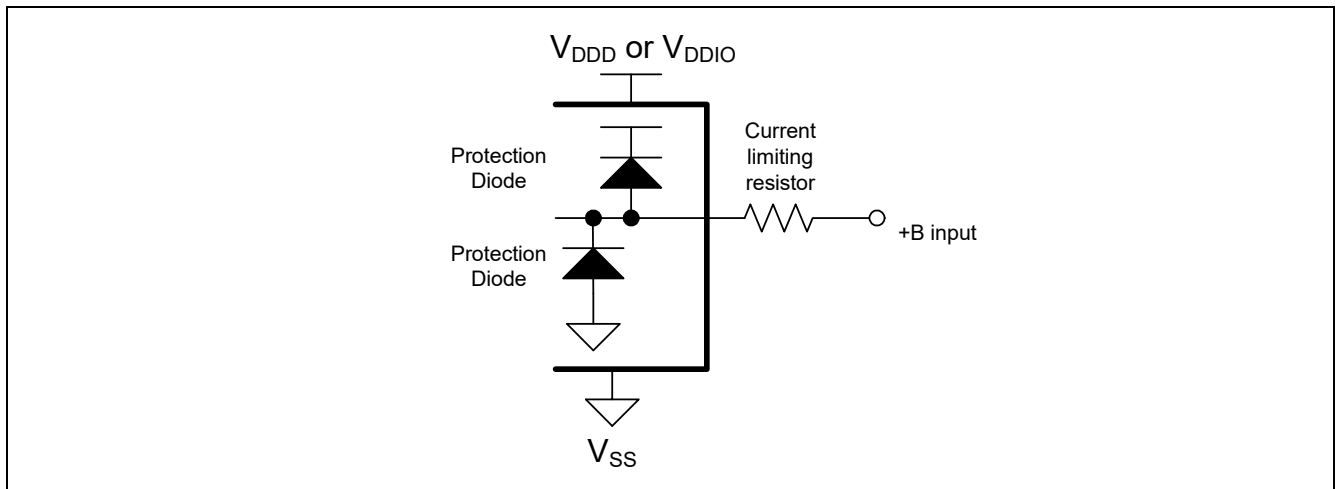

Figure 26-1 Example of a recommended circuit[43]
37. A current-limiting resistor must be provided such that the current at the I/O pin does not exceed rated values at any time, including during power transients. Refer to Figure 26-1 for more information on the recommended circuit.